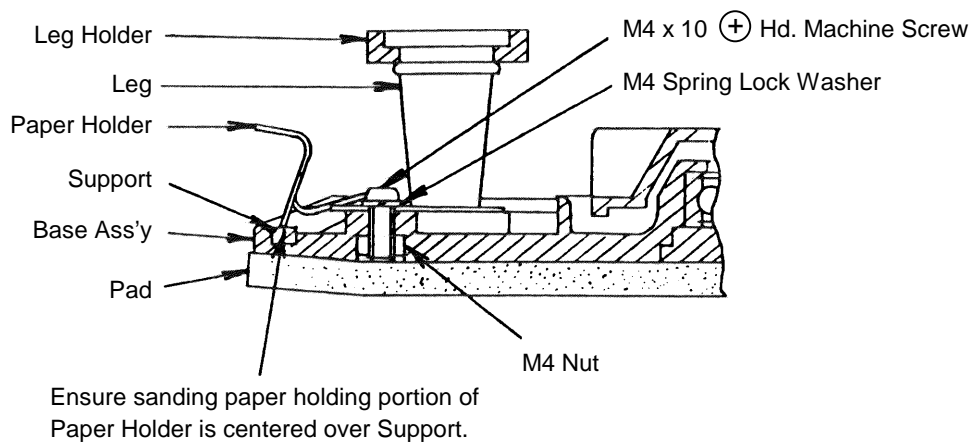

Fig. 11
After mounting the Legs (5) on the Leg Holders (4) and clipping the Paper Holders (9) onto the Legs, attach the Paper Holders (9) to the Base Ass'y (12) with the four M4 x 10 (+) Hd. Machine Screws (7), M4 Spring Lock Washers (8), and M4 Nuts (11), so that the sanding paper holding portions of the Paper Holders are centered over the Supports (10). (See Fig. 11.)